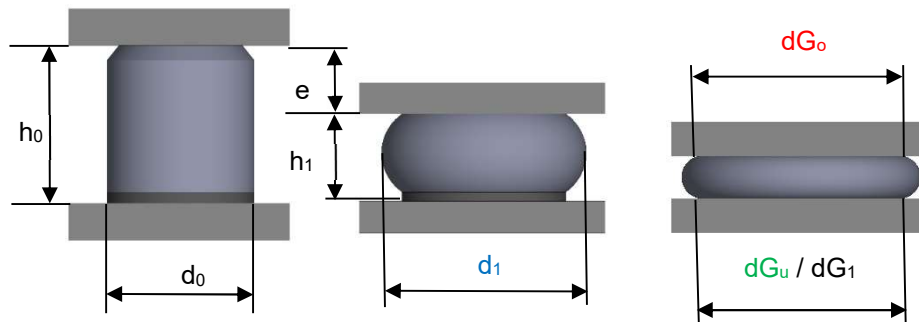

Fig. 5: convex expansion and contact to counter-pressure plates
4.2 When the buffer is compressed from the initial diameter d_0 and the elastic height h_0 by a distance e to the remaining height h_1 , it expands to the diameter d_1 convexly. In the case of big deformation, the widened area in diameter dG_u , dG_o or dG_1 comes into contact with the counter-pressure plates (fig. 5).